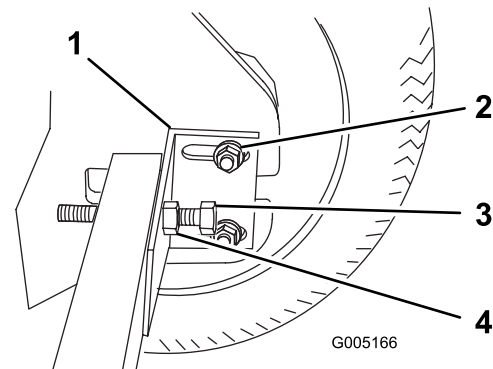

Figure 31
3. Loosen the nuts securing the axle retaining bracket (Figure 31).
4. Loosen the nut on the chain tensioning bolt and loosen the bolt (Figure 31).
- Position the axle retaining bracket tight against the axle and the frame, then tighten the nut on the bolt to secure it in place (Figure 31) and torque the nut to 30 ft-lb (40.7 N·m).